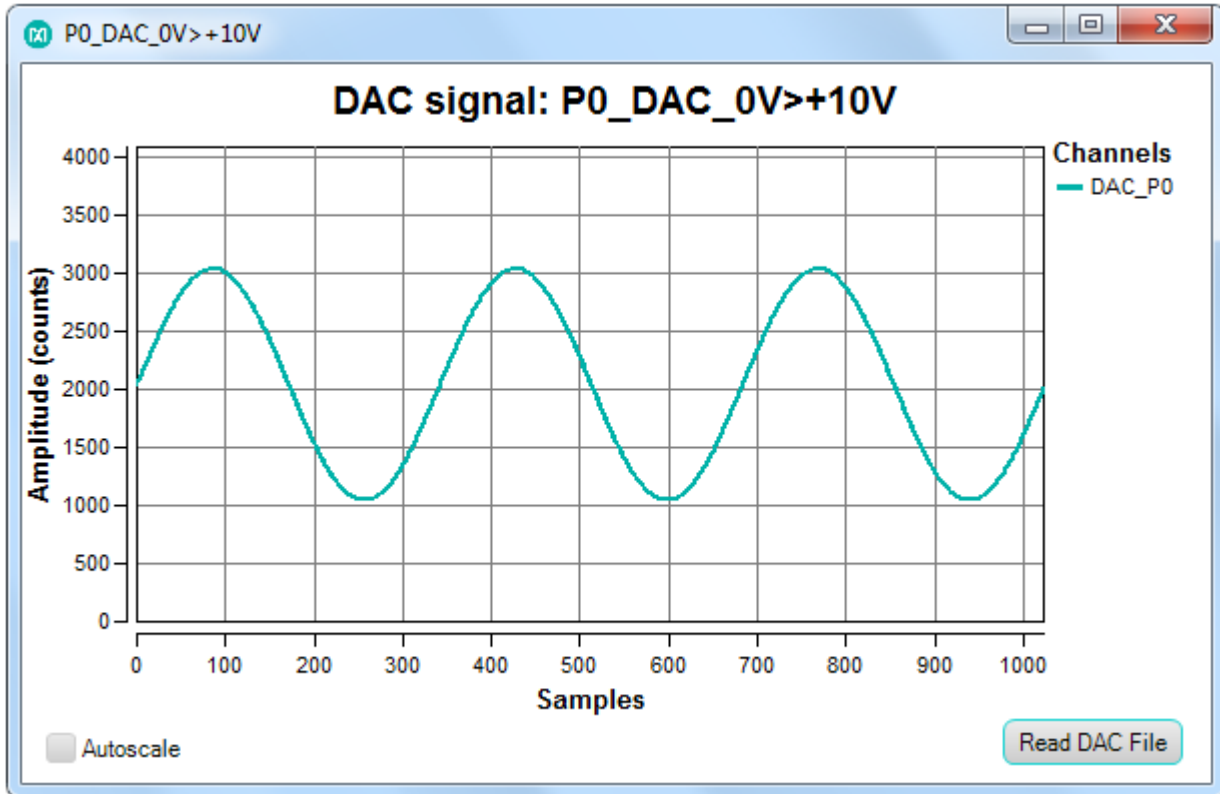

Figure 12. DAC plot box.
- DAC Analog Output:** The value written to the text box is applied to the port. For DAC analog outputs, it is also possible to apply a complete waveform. To do that, select a target DAC-port, and to apply a waveform, click on **Get Plot Box** on the top right. A separate window opens, and a comma separated file (.adc) that contains hex or decimal numbers can be read with up to 1024 samples (see **Figure 12**). There are a few waveform examples provided for sawtooth and sine and triangle waveforms; these files have the suffix .adc*. Note that once a plot box for the port is open, the text box in the GUI main window is ignored.